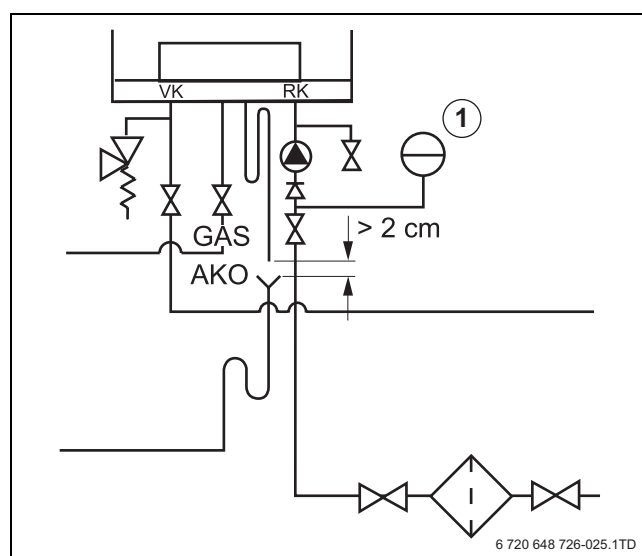

Fig. 25 Connecting the expansion vessel in a single-boiler system
- Connect the expansion tank to the boiler return (CHR). If a non-return valve is available: connect the expansion vessel to the CH-side of the non return valve in the return circuit (→ fig. 25, [1]).